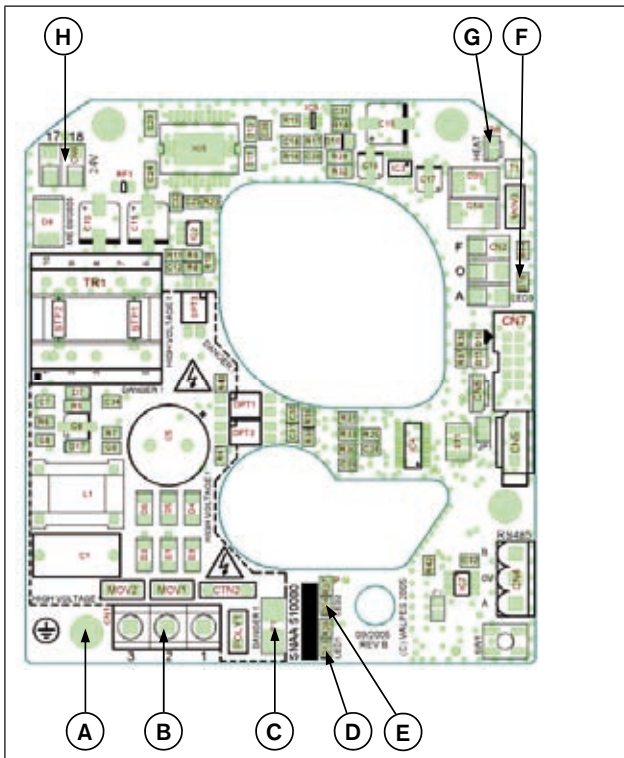
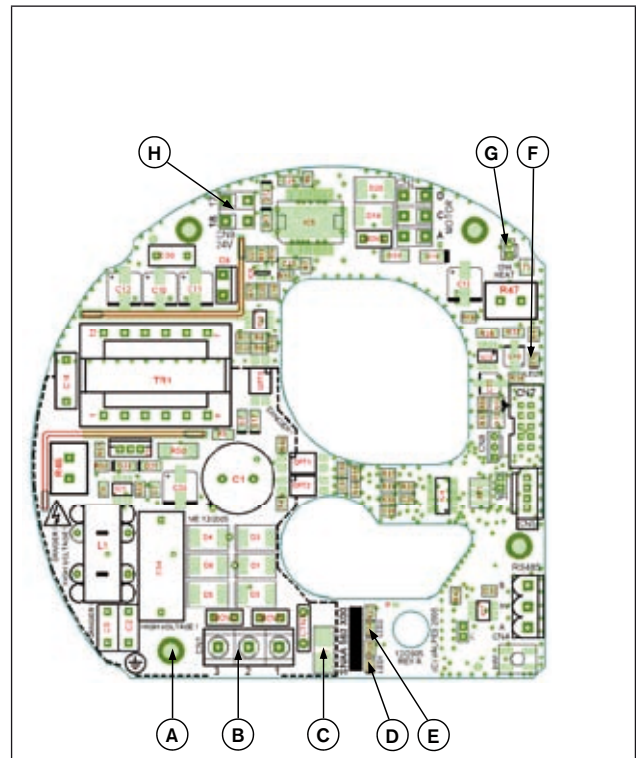
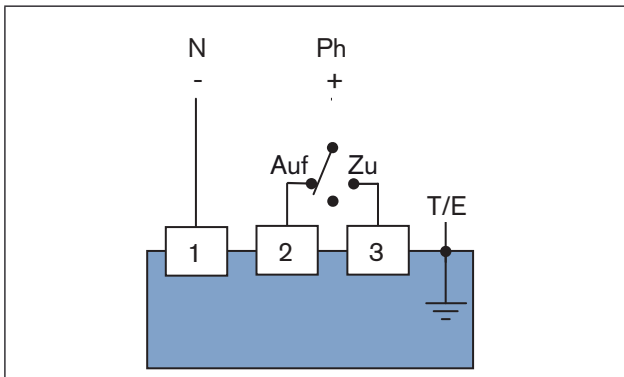

Fig. 20: Power supply card for 25 - 1 000 Nm drives (except 300 Nm)
Fig. 21: Power supply card for 300 Nm drives
Fig. 22: Three points mode
→ To do this, loosen earthing screw and attach eyelet of the earthing cable with the earthing screw (see Fig. 20: Power supply card for 25 - 1 000 Nm drives (except 300 Nm) and Fig. 21: Power supply card for 300 Nm drives).
- Connect cable according to the required control type (see Figs. 22/23) to the terminal strip Pos. B of the power supply card (see Figs. 20/21).